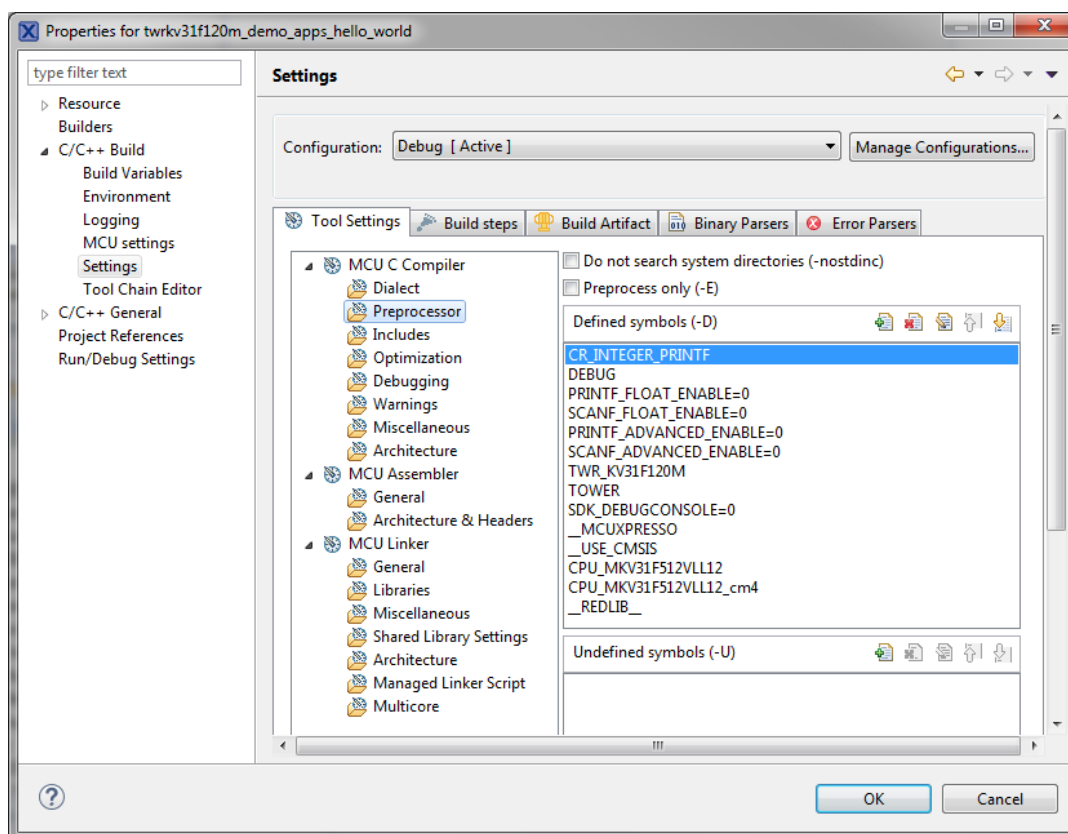

Figure 1-1. Defined symbols
2. Expand the C/C++ Build node and select Settings. See Figure 1-1.
3. On the right-hand side, under the MCU C Compiler node, click the Preprocessor node. See Figure 1-1.